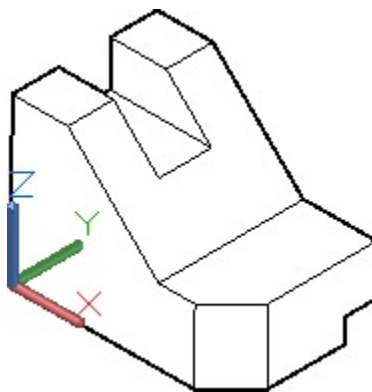

Figure 11-1
8. What is the current visual style shown in Figure 11-1?